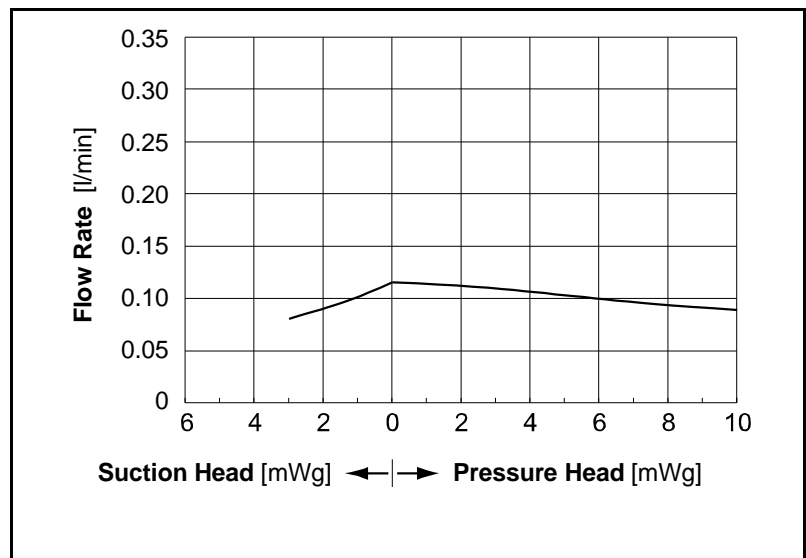

Fig. 8: Flow rate of the pumps NF 10 E and NF 10 DCB
- Mounting orientation → The pump can be mounted in any orientation. The priming and accuracy of the pump is optimal if installed as in the illustration (Fig.8).